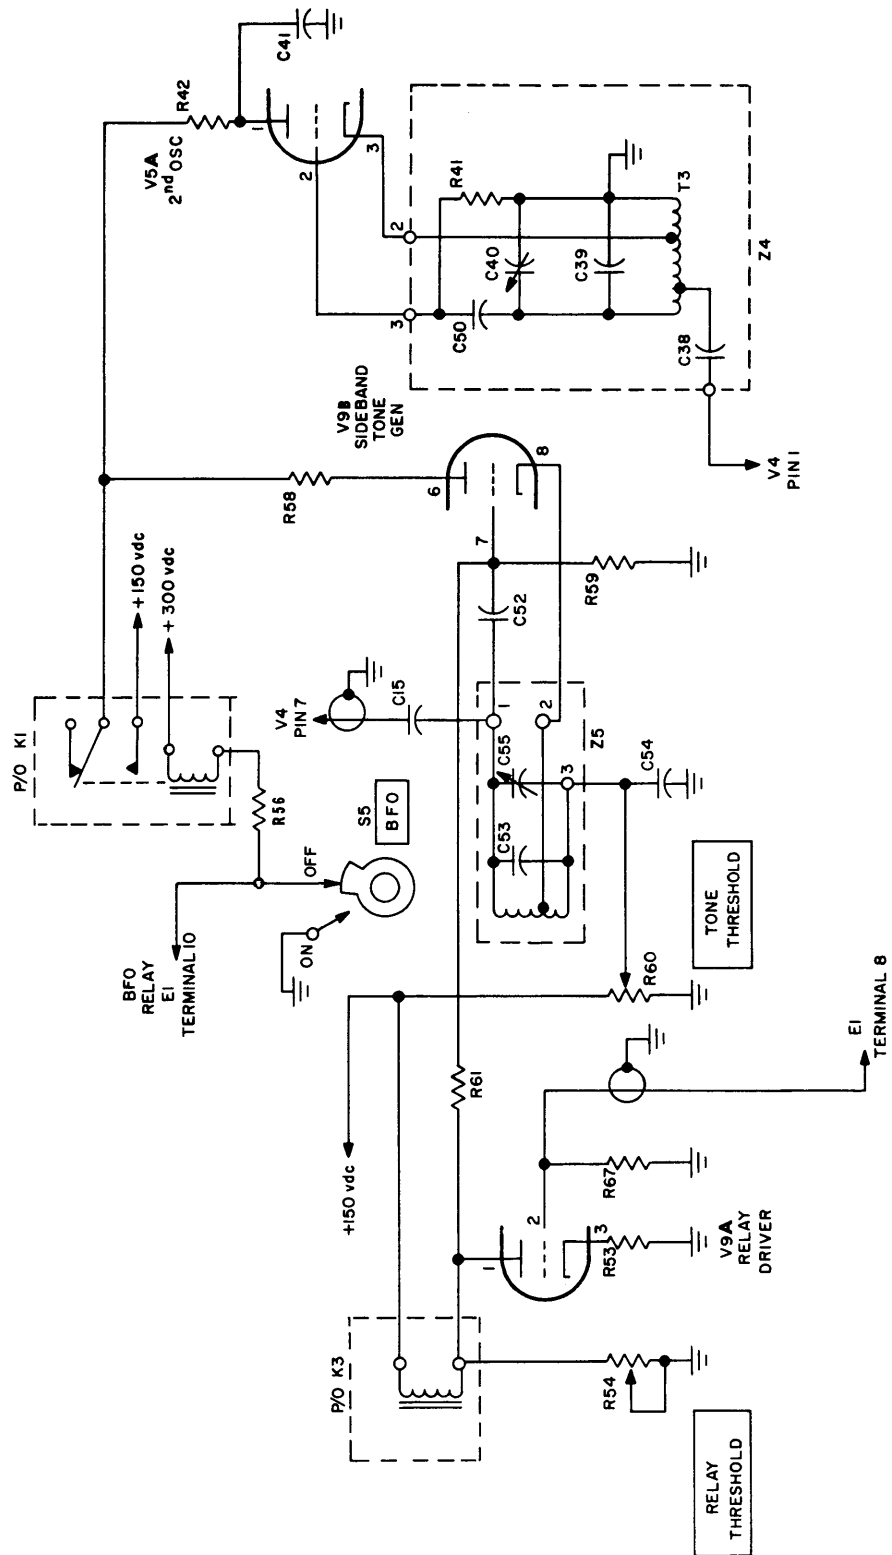

Figure 4-10. Relay Driver/Tone Generator, 2nd Oscillator, Model MSR-4, Simplified Schematic Diagram
f. RELAY DRIVER/TONE GENERATOR, 2nd OSCILLATOR (Figure 4-10, Model MSR-4, Figure 4-11, Model MSR-5). - As the RF Gain control on the TMC Model RCR system is turned to reduce the gain of the TMC Model FFR receiver, the required output of the TMC Model RSD performing this action reaches a certain level. When the level is such that the receiver is fully silent, its negative level will be sufficient to cut off the Relay Driver V9a, and de-energize relay K3. This action in turn, trips the sideband two-step relay K2.